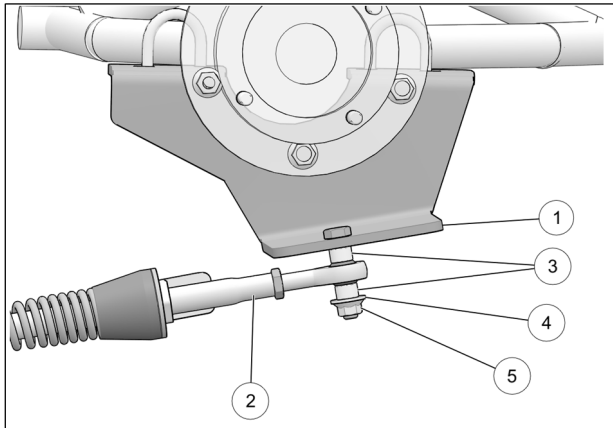

Fig. 9
9. Attach stabilizing rod (2) to anchor bracket (1), using spacer bushings (3), flat washer (4) and nut (5). Torque to 70 N•m [52 lb•ft]. See Fig. 9